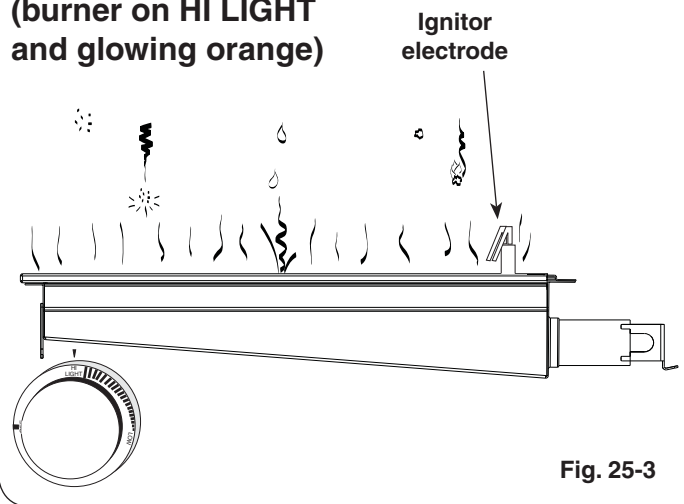

Fig. 25-3
- **DO NOT place food on the cooking grid until the IR burner glows orange (Fig. 25-3).** Drippings are heated and evaporate instead of sticking to and impairing burner function.